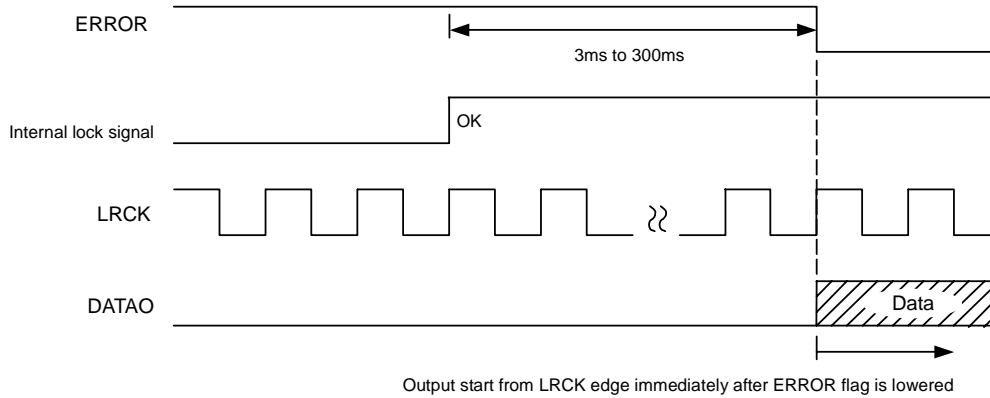

Figure 12.8 Data Processing at Data Demodulation Start (non delay setting)
- ERROR outputs high upon occurrence of PLL lock error and outputs low after holding high for 3msec to 300msec after data demodulation returns to normal. See Figure 12.8.
- The start timing of the ERROR flag, and the DATAO and DATAO2 output data are shown in Figure 12.8.